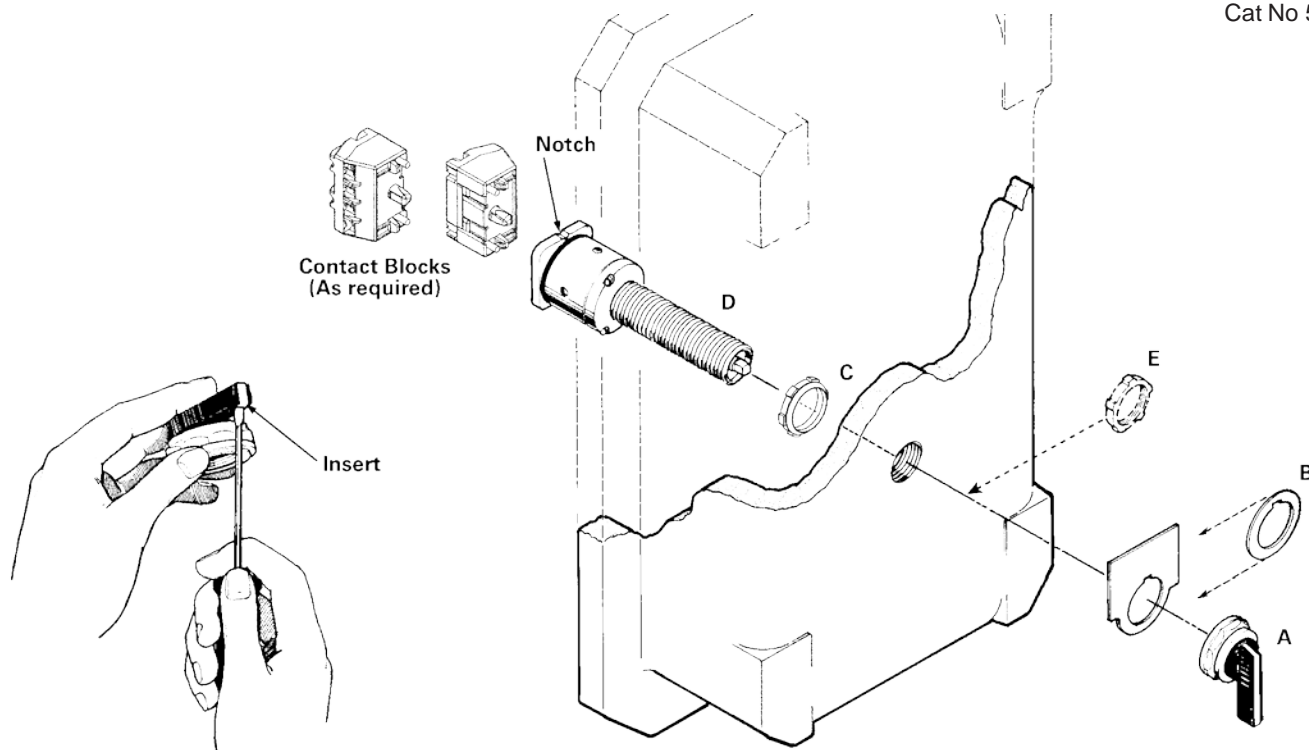

Figure 1
4. Remove octagonal lock nut **A** and trim washer **B** from the assembly **D**. If a different color lever inset is required, pry out white insert with small screwdriver as shown in Figure 1. Snap in new color insert.
6. From inside the enclosure, install assembly **D** through a 3/4 inch 14NPSM tapped hole until the front of the bushing projects 5 or 6 threads from the front surface of the enclosure. Position the assembly with the notched edge of the square cam housing facing up as shown in Figure 1.